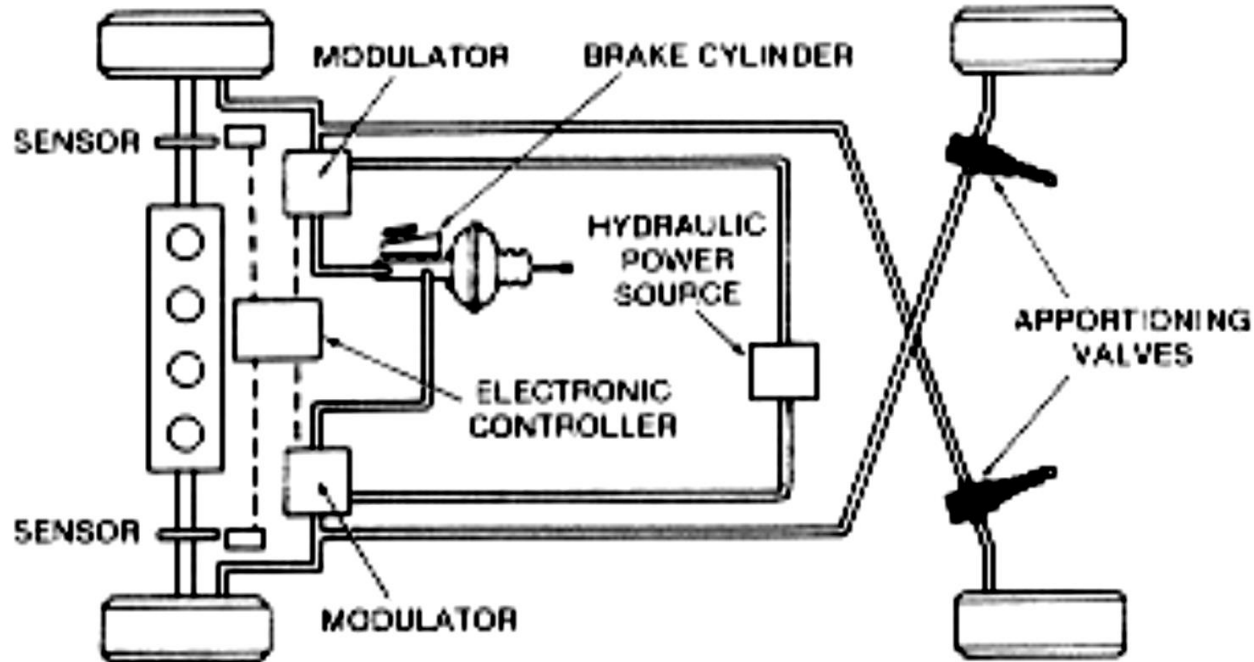

Figure 8.12
- The physical configuration for an ABS is shown in Figure 8.12. In addition to the normal brake components, including brake pedal, master cylinder, vacuum boost, wheel cylinders, calipers/disks, and brake lines, this system has a set of angular speed sensors at each wheel, an electronic control module, and a hydraulic brake pressure modulator (regulator).